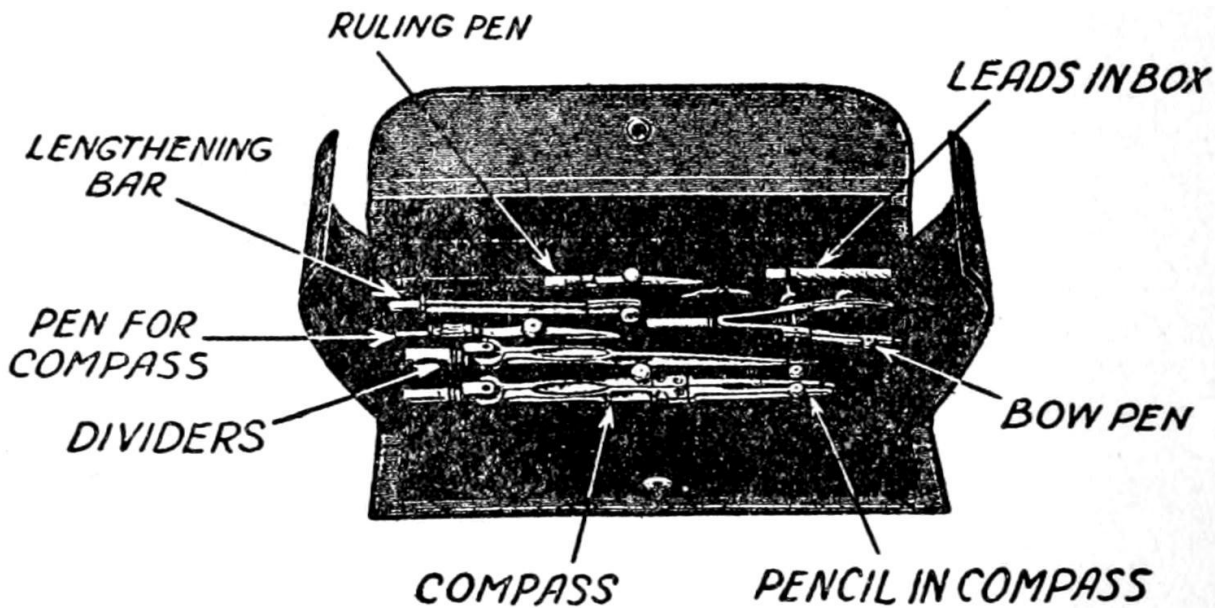

FIG. 46. THE DRAWING TOOLS YOU NEED
pencil points, and (3) one or more *ruling pens*. One of each of the above tools will be enough for you to begin with. A cheap set is shown in Fig. 46.